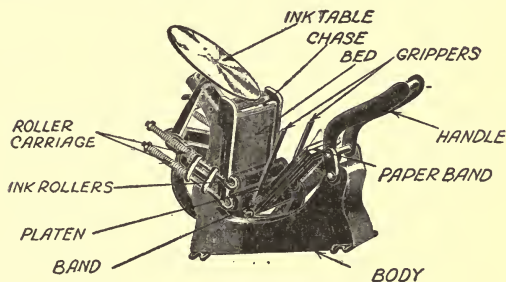

FIG. 63. A MODEL SELF-INKING PRINTING PRESS
There are seven chief parts to this press and these are (1) the body; (2) the type bed; (3) the platen; (4) the ink-roller carriage; (5) the ink table; (6) the chase, and (7) the handle, all of which are shown in Fig. 63.